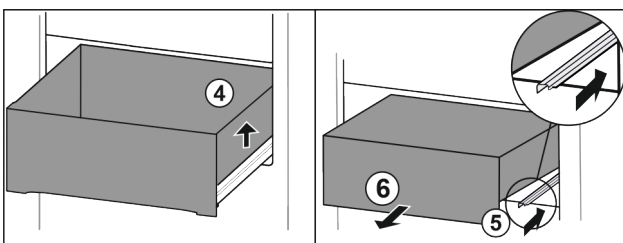

Fig. 90
- ▶ Lift drawer on the right. Fig. 90 (4)
- ▶ Slide in right rail. Fig. 90 (5)
- ▶ Remove drawer to the front. Fig. 90 (6)